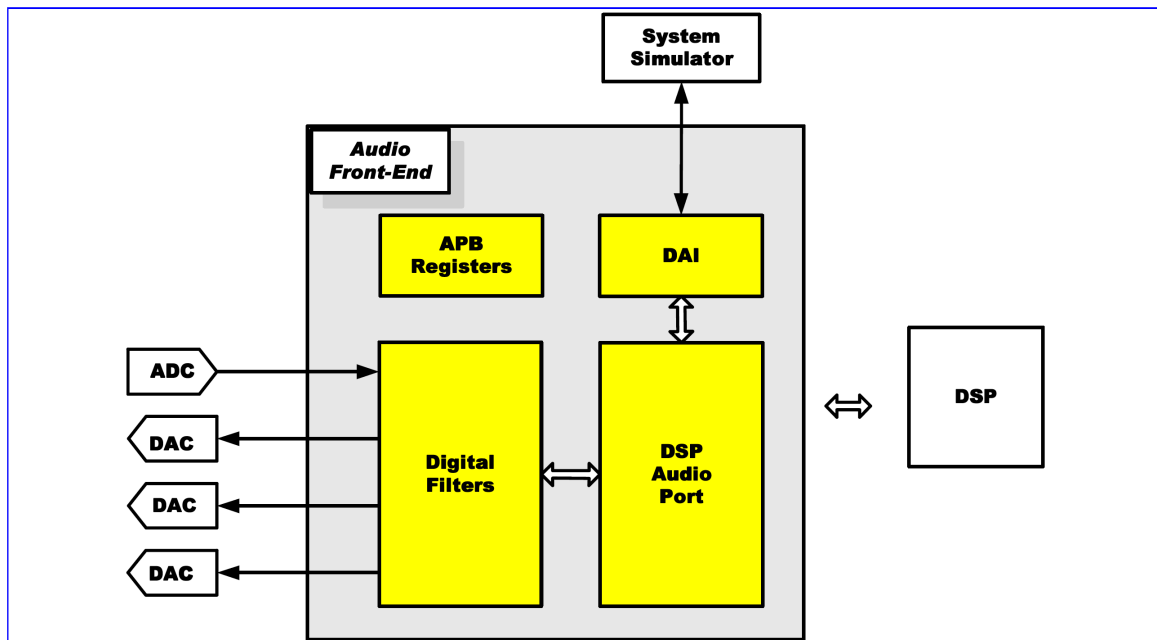

Figure 2
Figure 2 shows the digital circuits block diagram of the audio front-end. The APB register block is an APB peripheral that stores settings from the MCU. The DSP audio port block interfaces with the DSP for control and data communications.
2. Figure 2 Block Diagram of Digital Circuits of the Audio Front-End
The MT6318 battery charger can be used with Li-ion and NiMH batteries. BATUSE pin can set MT6318 to fit the battery type. When BATUSE is set low, Li-ion battery is used. When BATUSE is set high, then NiMH battery is used. MT6318 charges the battery in three phases: pre-charging, constant current mode charging, and constant voltage mode charging. Figure 2 shows the flow chart of charger behavior. The circuitry of MT6318 combines with a PMOS transistor, diode and current-sense resistor externally to form a simple and low cost linear charger shown in Figure 3. MT6305 is available pulsed top-off charging algorithm by the CHRCNTL pin control from baseband chipset.